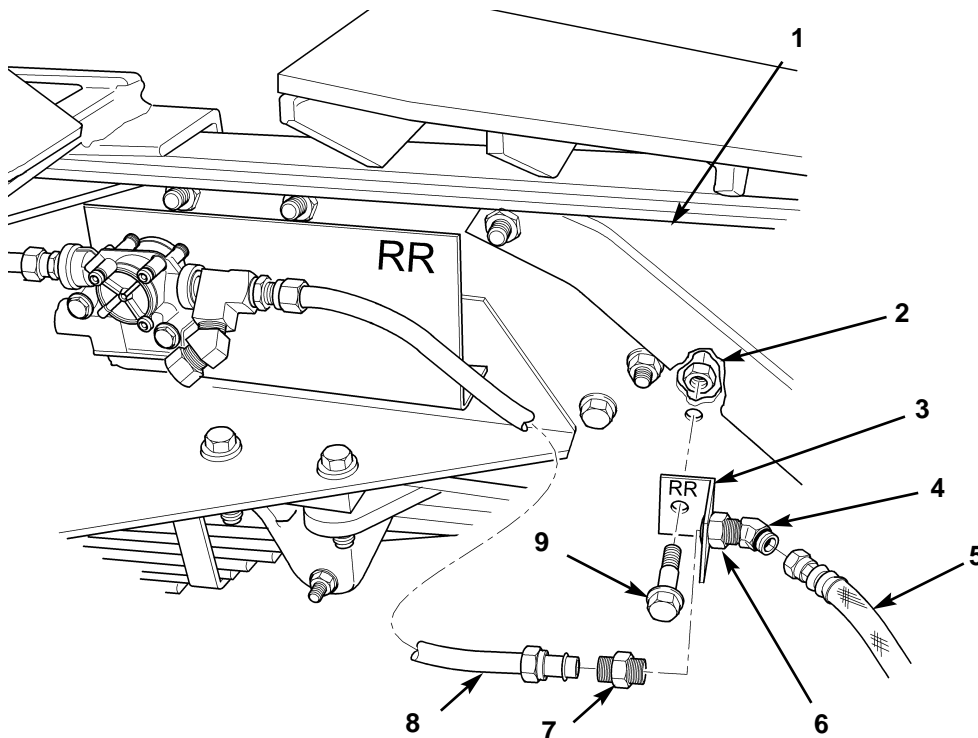

Figure 11. Installing Right-Rear Air Block.
3. Install right-rear bulkhead fitting mount (figure 11, item 3) on right frame rail and rear leaf spring shackle (figure 11, item 1) with bolt (figure 11, item 9) and new locknut (figure 11, item 2).
4. Install adapter (figure 11, item 7) on bulkhead fitting (figure 11, item 6), and connect tube (figure 11, item 8) to adapter (figure 11, item 7).
5. Connect hose assembly (figure 11, item 5) from right spring brake chamber to elbow (figure 11, item 4).